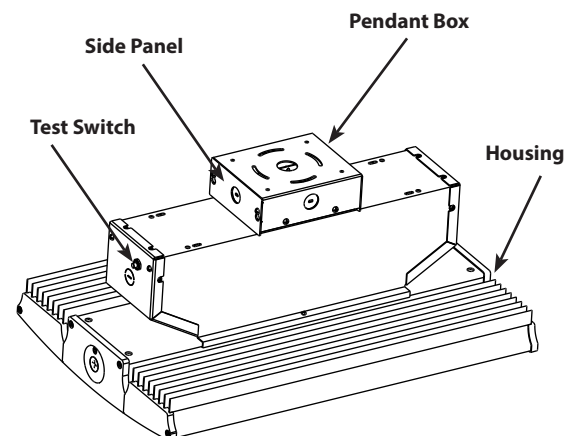

Fig. 2
2. Loosen screws (2) and remove **Side Panel** from **Pendant Box**.
3. Loosen screws (4) and slide **Pendant Box** from Pendant Box Plate/ Housing.
5. Slide **Pendant Box** onto Pendant Box Plate/ Housing and tighten screws (4).
7. Replace **Side Panel** and tighten screws (2) as shown in **Fig. 2**.
4. Replace the **Side Panel** and tighten screws (2) as shown in **Fig. 2**.